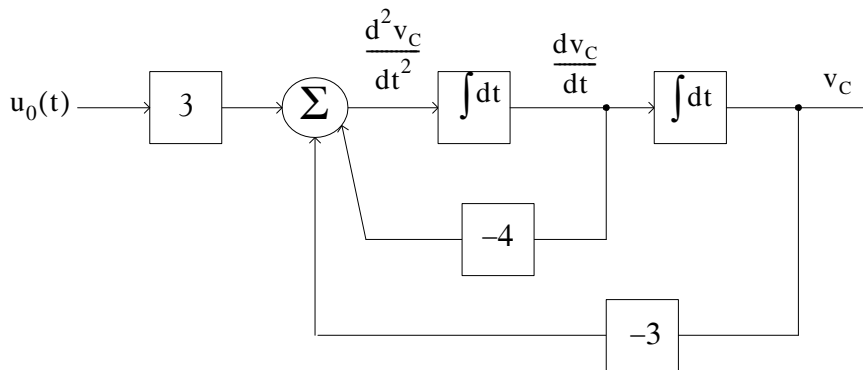
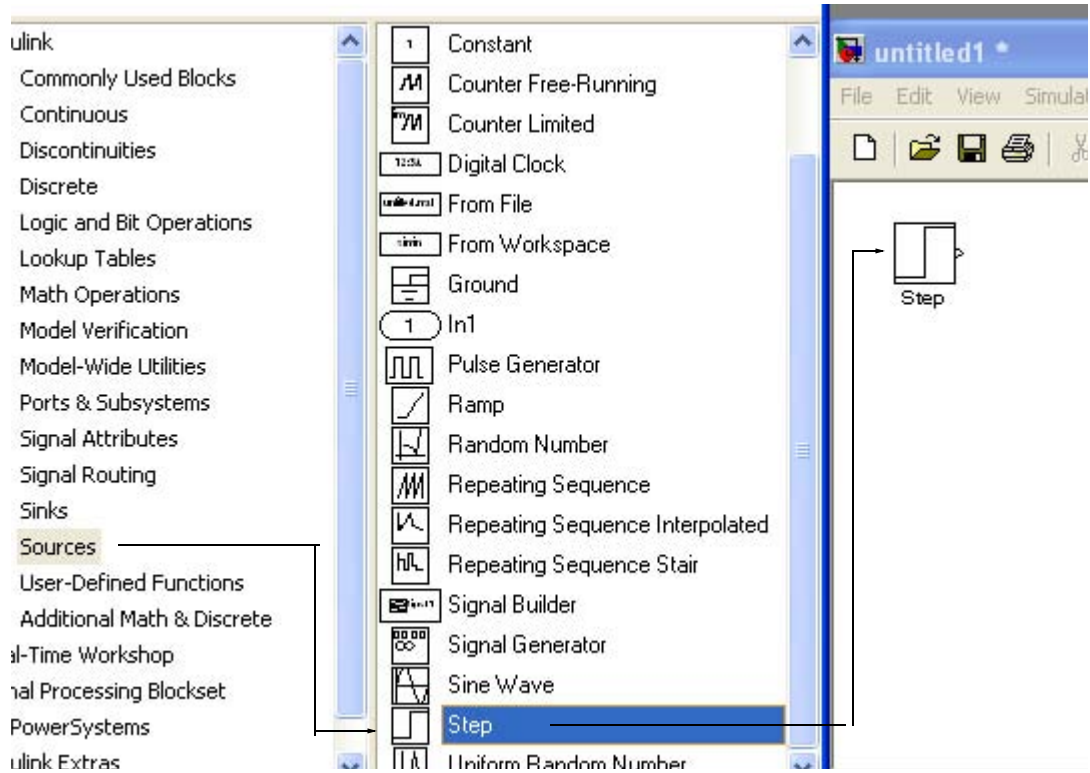

Figure B.5. Block diagram for equation (B.26)
Figure B.8. Dragging the unit step function into File Equation\_1\_26
A block diagram representing relation (B.26) above is shown in Figure B.5. We will use Simulink to draw a similar block diagram.\*
2. With the **Equation\_1\_26** model window and the **Simulink Library Browser** both visible, we click on the **Sources** appearing on the left side list, and on the right side we scroll down until we see the unit step function shown as **Step**. See Figure B.8. We select it, and we drag it into the **Equation\_1\_26** model window which now appears as shown in Figure B.8. We save file **Equation\_1\_26** using the File drop menu on the **Equation\_1\_26** model window (right side of Figure B.8).
3. With reference to block diagram of Figure B.5, we observe that we need to connect an amplifier with Gain 3 to the unit step function block. The gain block in Simulink is under **Commonly Used Blocks** (first item under Simulink on the **Simulink Library Browser**). See Figure B.8. If the **Equation\_1\_26** model window is no longer visible, it can be recalled by clicking on the white page icon on the top bar of the **Simulink Library Browser**.